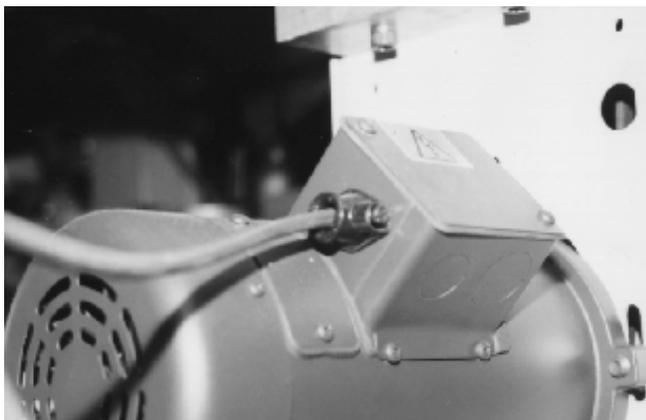

Figure 9
12. Reconnect the backgauge motor cable. From the table, the cable runs through the strain relief bushing into the motor housing, (Figure 9). Attach the wires according to the wiring schematic in the back of this manual for the machine model that you have.